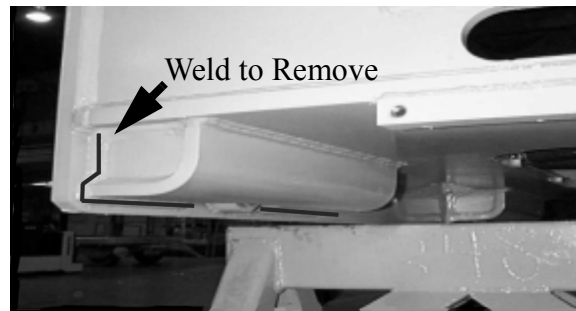

Figure 2 Box Gusset
2. Referencing Figure 2, remove welds from between counterweight mounting plate and box gussets.